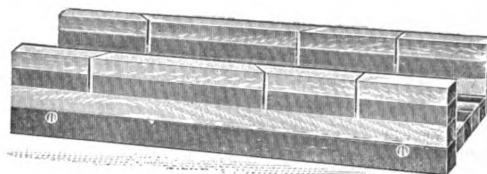

Fig. 8.—Hard Wood Miter Box of Glued Alternate Strips.
C. E. Jennings & Co., 101 Reade street, New York, are directing the attention of the trade to the hard wood miter box shown in Fig. 8 of the cuts. It is made of alternate strips of black walnut or beech or cherry glued together.